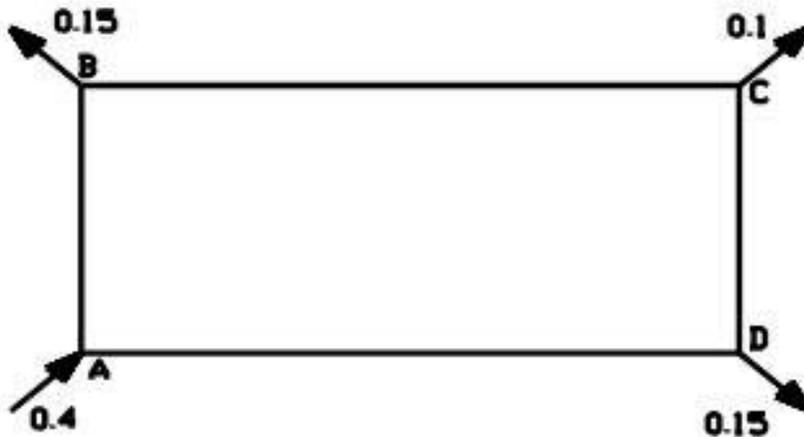

Fig.3
4. Water enters the four-sided ring main shown in Fig.3 at A at a rate of  $0.4 \text{ m}^3/\text{s}$  and is delivered at B, C, D at the rate of  $0.15$ ,  $0.10$ , and  $0.15 \text{ m}^3/\text{s}$  respectively. All pipes are  $0.6 \text{ m}$  in diameter with a friction coefficient '  $f$  ' of  $0.0078$  and their lengths are:  $AB = CD = 150 \text{ m}$ ,  $BC = 300 \text{ m}$ , and  $DA = 240 \text{ m}$ . Determine the flow through each pipe and the pressures at B, C, and D if that at A is  $105 \text{ kN/m}^2$ .